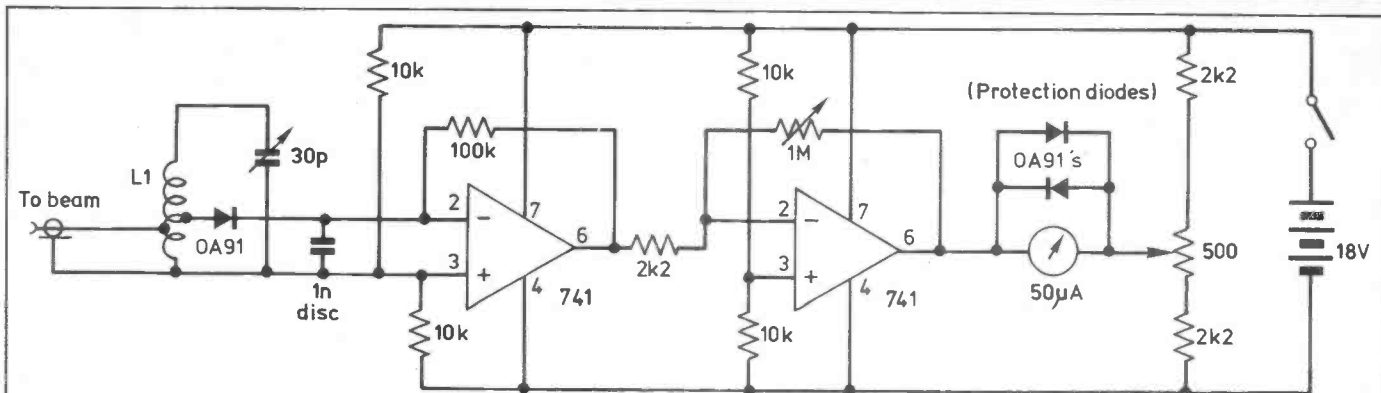

FIG. 5. Simple crystal receiver for DF hunts
2. A simple amplified 'crystal set' (Figs. 5 & 6).